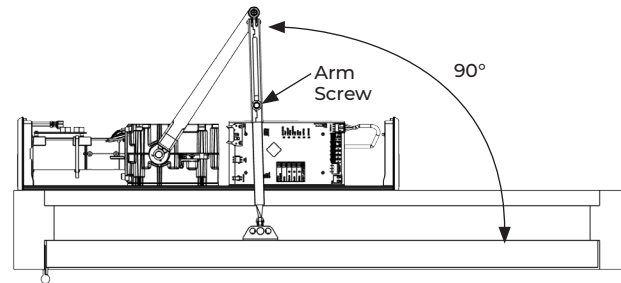

Fig. 17 View: Looking up from floor
3. With door fully closed, rotate the main arm toward the latch edge of the door until the arm tube is at a 90° angle (perpendicular) to the door. (Fig. 17)
4. Use the arm screw provided with the main arm to secure the tube to the forearm rod. (Fig. 17)